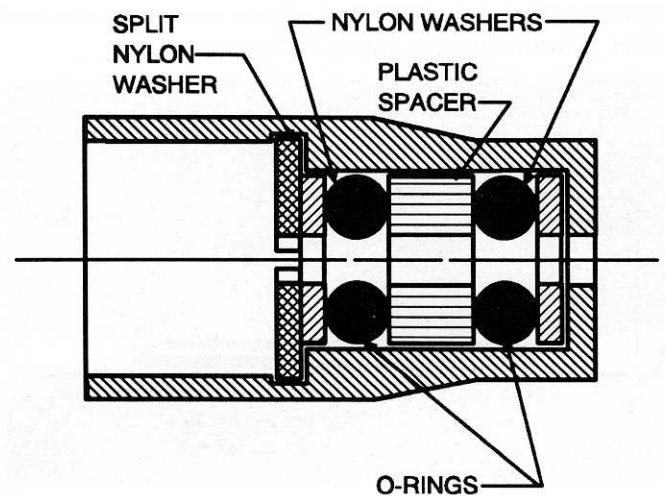

**Fig. 107**
□ **Fig. 107** Now slip the #6464 piston on each shaft, and then install the second E-clip. Make sure both E-clips are fully seated in the groove.